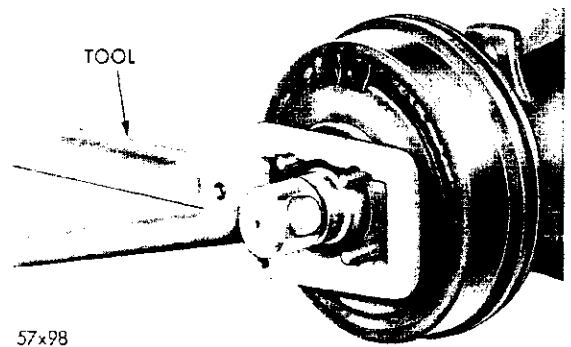

Fig. 33—Removing or Installing Brake Drum Flange Nut
(1) Disconnect the propeller shaft at parking brake drum flange.
(2) Hold brake drum flange with Tool C-3281, and remove retaining nut and washer (Fig. 33).
(3) Attach the puller, Tool C-452 (if necessary) and remove drum and flange assembly.
(1) Disconnect the propeller shaft at the front flange.
(2) Apply the parking brake or hold the drum with Tool C-3281 and remove retaining nut and washer (Fig. 33). Release the parking brake (if ap-